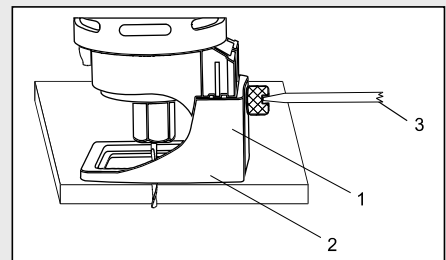

Fig. 7
1. Adjust the freehand cutting guide depth by loosening the depth gauge locking screw (1) and moving the cutting guide foot (2) up or down as required (Fig. 7).
**NOTE:** Hand tightening is normally adequate. If you use a screwdriver (3), do not overtighten the locking screw.
4. Adjust depth of freehand cutting guide as shown in Fig. 7.
4. Install the assist handle, freehand cutting guide and cutting bit, as outlined in Fig. 1, 2 & 3. Adjust depth of cut so the bit will protrude 1/8" beyond the thickness of the drywall (Fig. 7).
2. Adjust cutting bit depth to 1/8" longer than the thickness of the material to be cut (Fig. 7).